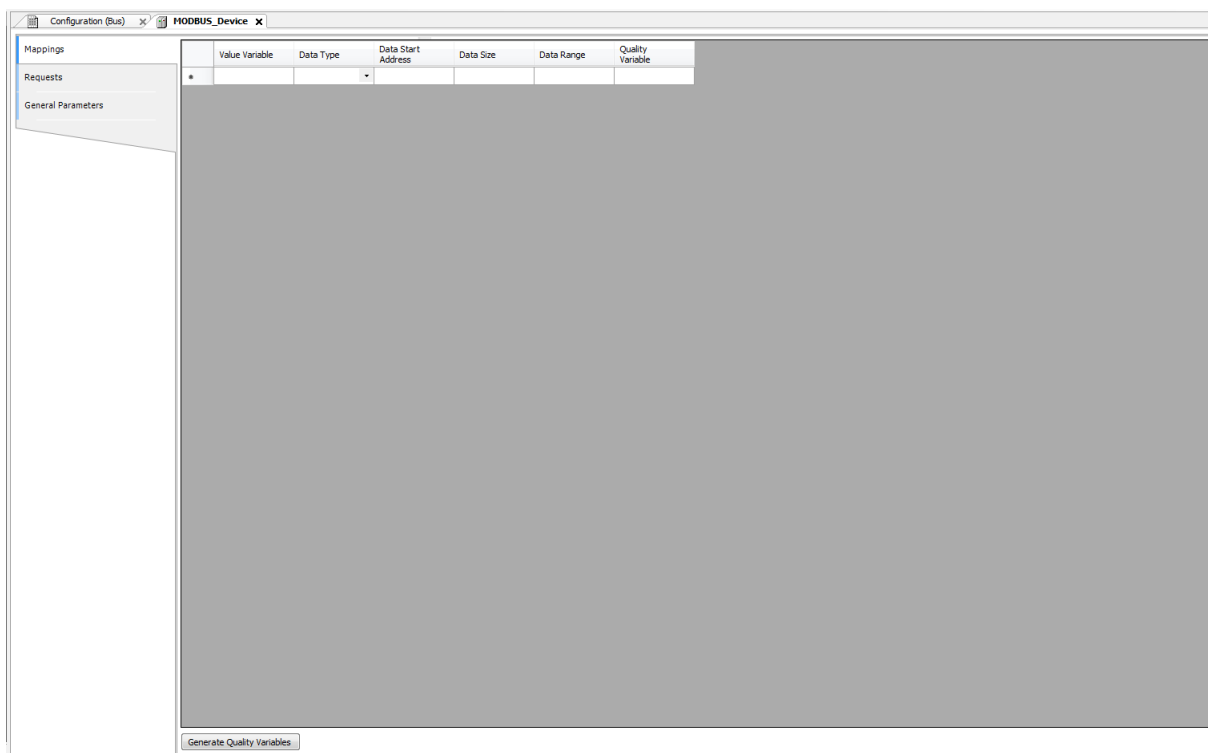

Figure 83: MODBUS Data Mappings Screen
- Add and configure the MODBUS mappings on Mappings tab as Figure 83, specifying the variable name, data type, and the data initial address, the data size and range are filled automatically.